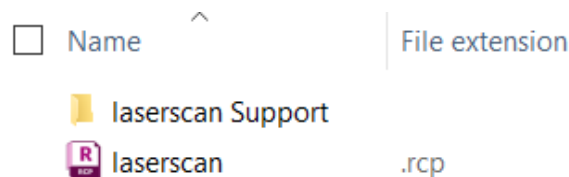

Figure 5.5 – Autodesk ReCap file and folder structure
2. Navigate in the file explorer to the file named `laserscan.rcp`. In *Figure 5.5*, you can see `laserscan.rcp` and a similarly named folder, `laserscan Support`. ReCap works with a main file, with the `.RCP` extension, with the corresponding raw data files located in the `Support` folder. You'll notice the size of the `.RCP` file is only 44 KB, while the support folder is 77 MB.